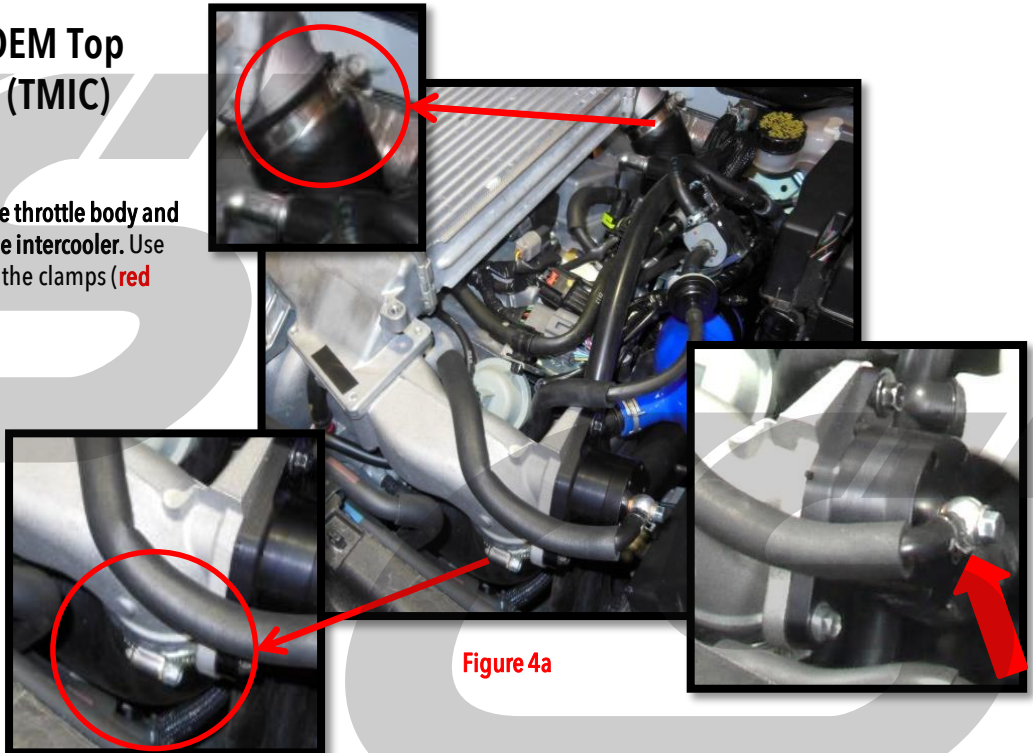

Figure 4a
- a) Remove the clamps for the throttle body and turbo boost tubes from the intercooler. Use a 10mm socket to loosen the clamps (red circles in Figure 4a).
- b) Detach the bypass valve (BPV) signal hose from the BPV. Release the spring clamp and then remove the signal hose from the BPV (red arrow in Figure 4a on previous page). Leave the bypass valve attached to the intercooler pipe.